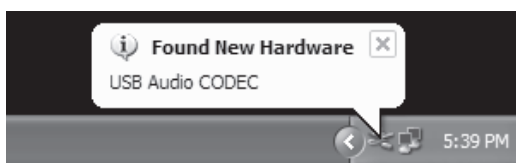

Figure 1
1. The first time you plug the L series into a USB port, Windows will install the universal drivers for that port. A balloon tip will pop up, telling you it has found the USB Audio codec (figure 1).